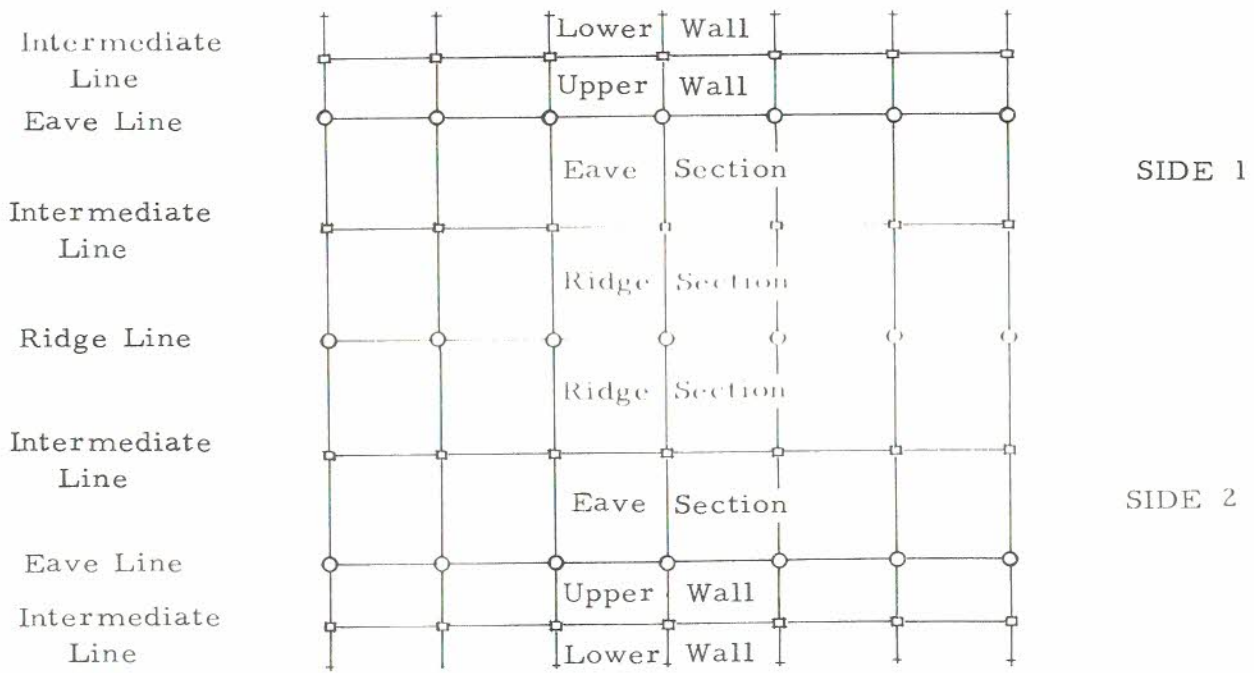

FIG 11 - IDENTIFICATION OF ROOF AND WALL ASSEMBLIES
13. Fig 11 shows the framework of the tent less the bracing members (which can be seen in Fig 10). The following items only are used in this framework: